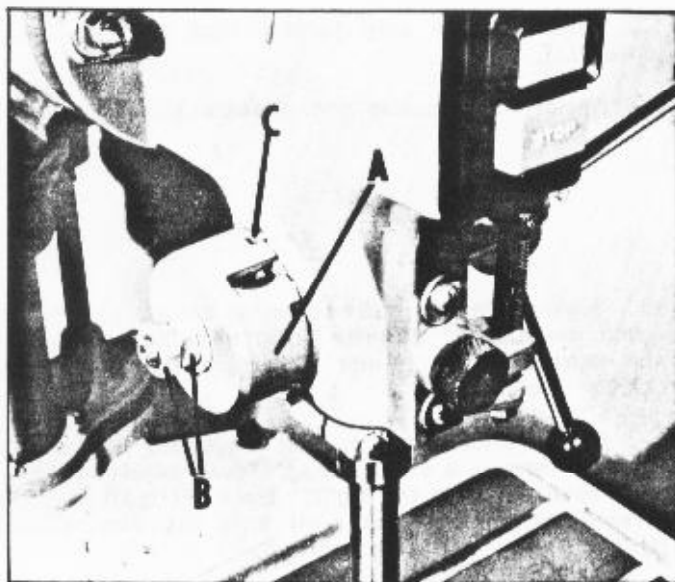

Fig. 13
For the purpose of automatically returning the spindle upward after a hole has been drilled, a spring is provided enclosed in the case (A) Fig. 13, and is located on the left side of the drill press head. This spring has been properly adjusted at the factory and this adjustment should not be disturbed unless absolutely necessary.
1. Back off the two nuts (B) Fig. 13. NOTE: Do not remove the inside nut from the shaft. The nuts (B) should be backed off just far enough so that the spring housing (A) can be disengaged from the roll pin (C) in the head casting.
2. With a firm hold on the spring housing (A) Fig. 13, disengage it from the pin (C) in the drill press head, by pulling the housing straight out, and turn the housing counterclockwise to increase or clockwise to decrease tension. Be sure the pin in the drill press head is engaged with one of the other slots in the spring housing before releasing grip.
3. Retighten the two nuts (B) Fig. 13. NOTE: Do not over-tighten the inside nut against the spring housing (A) as this may cause binding of the pinion shaft.